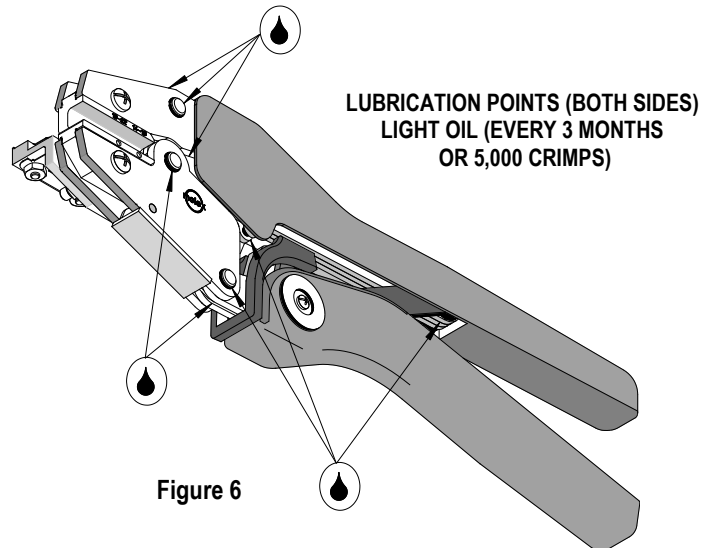

Figure 6
3. Make certain all pins; pivot points and bearing surfaces are protected with a thin coat of high quality machine oil. Do not oil excessively. This tool was engineered for durability, but like any fine piece of equipment it needs cleaning and lubrication for a maximum service life of trouble-free crimping. A light oil, such as 30 weight automotive oil used at the oil points shown in Figure 6, every 5,000 crimps or 3 months will significantly enhance the tool life and ensure a stable calibration.